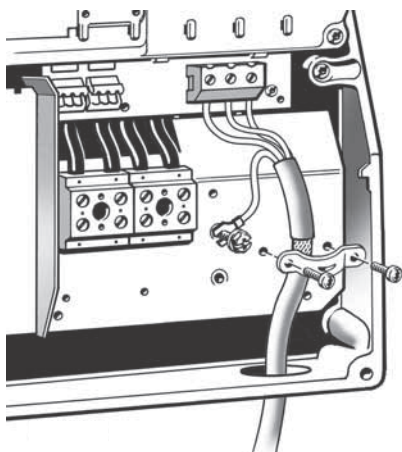

Fig. 34 Motor connection
1. Connect the ground wire to terminal 99 (PE). See fig. 34.
2. Connect the motor leads to the terminals 96 (U), 97 (V), 98 (W).